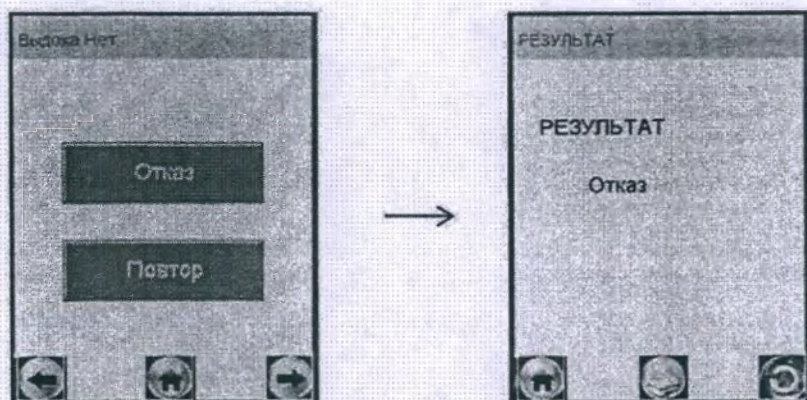

Figure 23 – Result of “Refusal of measurements”
2.10.1 **Blow**” window of readiness for sampling will be replaced by the “**No exhalation**” window (Figure 23, left).
2.10.2 If the subject refuses to take measurements (the subject refuses to exhale), the analyzer provides the ability to interrupt the measurement procedure, while recording the fact of refusal to take measurements (if necessary). To do this, click on the virtual button “**Refusal**” - a message about refusal of measurements will appear on the screen (Figure 23, right).